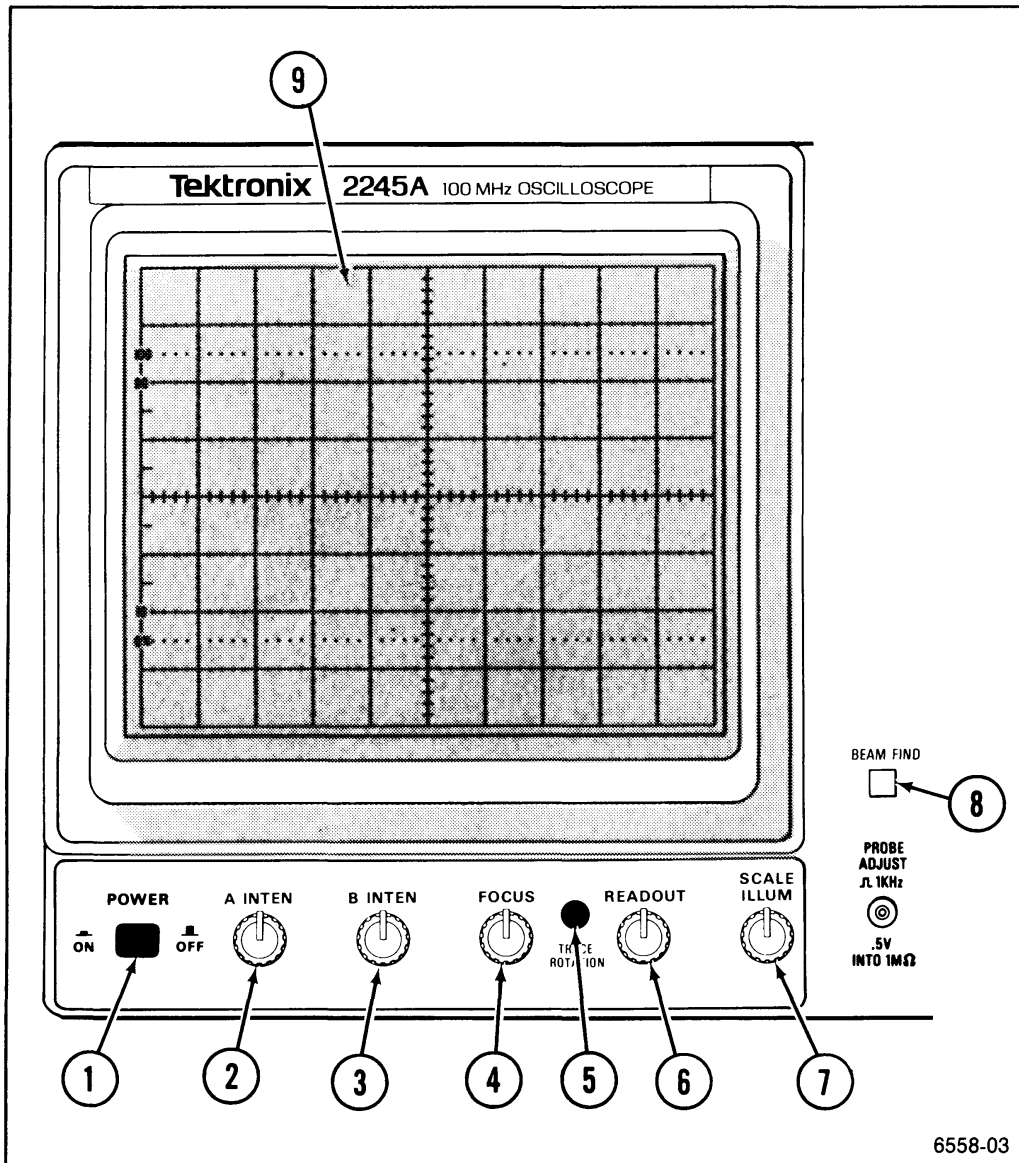

Figure 2-1. Crt, power and display controls.
Refer to Figure 2-1 for location of items 1 through 9.
- ① **POWER Switch**—Turns on or off instrument power. Press for ON or OFF.